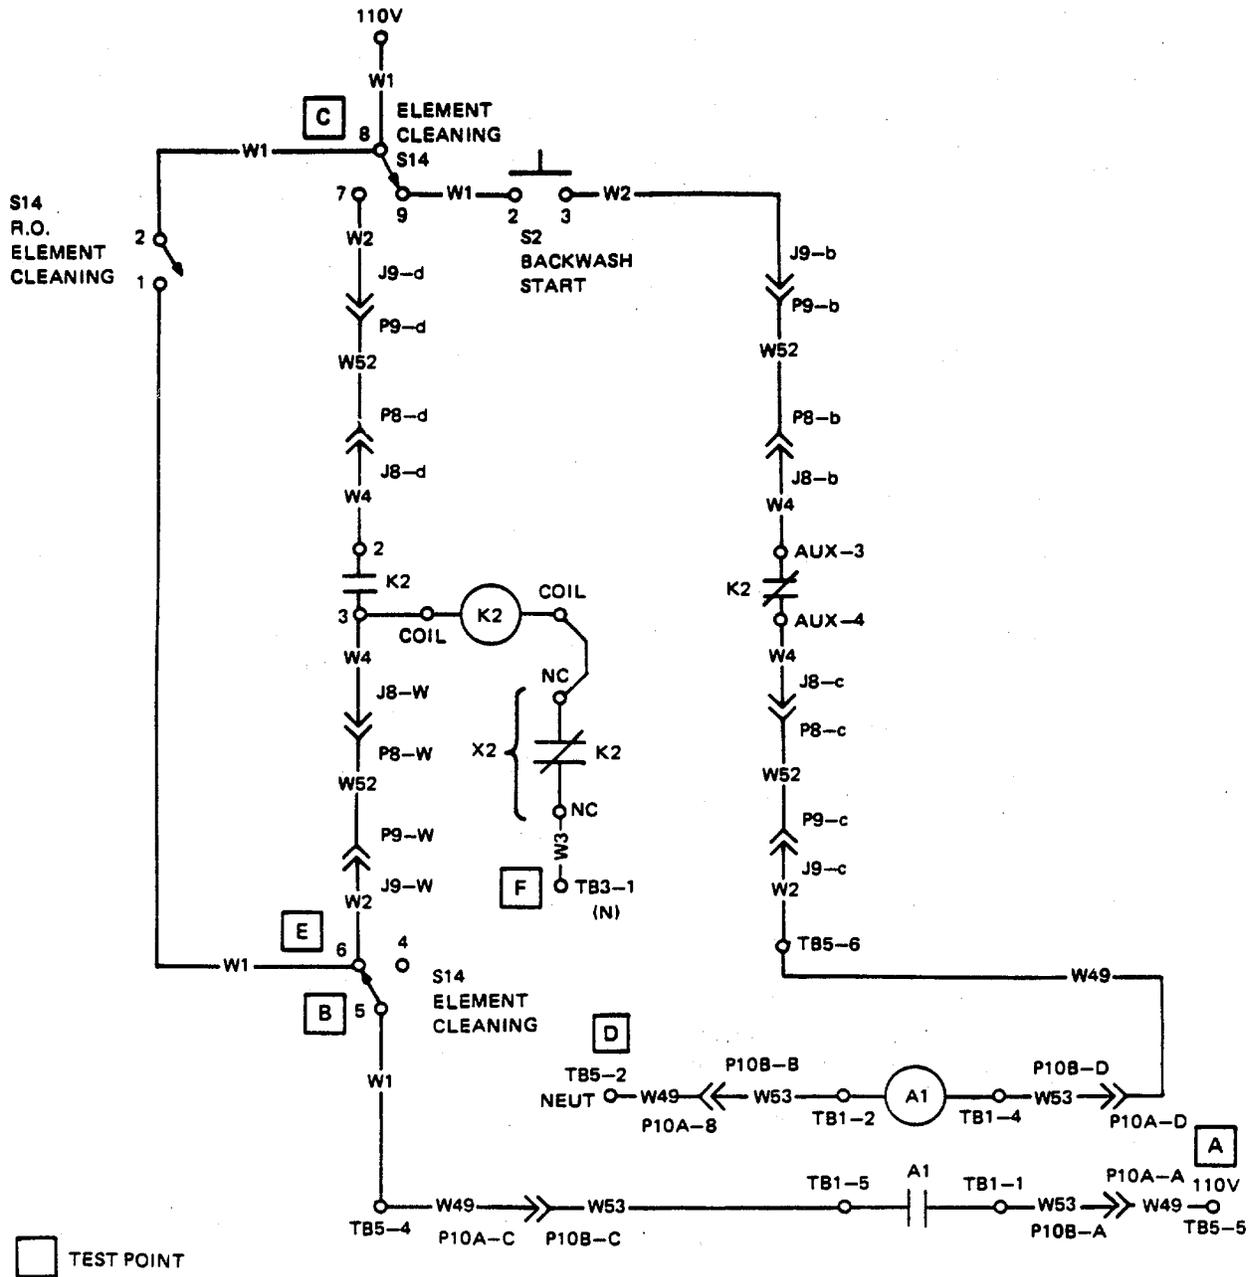

Figure 3-12. Backwash Pump Assembly Support Diagram
Ensure that all circuit breakers are set. Refer to figure FO-3 for schematic diagram and figure FO-4 for interconnection diagram. Refer to figure 3-1 for control box support diagram, figure 3-2 for junction box support diagram, and figure 3-12 for backwash pump assembly support diagram.
- Step 3. Shut down ROWPU. Refer to TM 10-4610-239-10. Shut down power. Refer to generator manual. Refer to backwash pump assembly support diagram figure 3-12. Check continuity point-to-point between test points A and B. If all checks indicate continuity except across A1, repair backwash timer assembly. Refer to paragraph 3-24.
- Step 4. Shut down ROWPU. Refer to TM 10-4610-239-10. Shut down power. Refer to generator manual. Hold BACKWASH switch in START position. Refer to backwash pump assembly support diagram figure 3-12. Check continuity point-to-point between test points C and D.
Ensure that all circuit breakers are set. Refer to figure FO-3 for schematic diagram and figure FO-4 for interconnection diagram. Refer to figure FO-3 for schematic diagram and figure FO-4 for interconnection diagram. Refer to figure 3-1 for control box support diagram, figure 3-2 for junction box support diagram, and figure 3-12 for backwash pump assembly support diagram.
- Step 2. Shut down ROWPU. Refer to TM 10-4610-239-10. Shut down power. Refer to generator manual. Set ELEMENT CLEANING switch to RUN position. Refer to backwash pump assembly support diagram figure 3-12. Check continuity point-to-point between test points C and F.
- Step 5. Shut down ROWPU. Refer to TM 10-4610-239-10. Shut down power. Refer to generator manual. Refer to backwash pump assembly support diagram figure 3-12. Check continuity point-to-point between test points E and F.